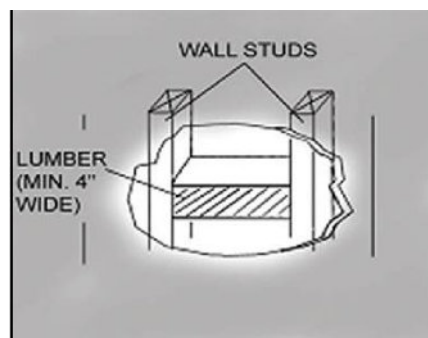

Figure 10
- Using references in Table 2 on page 4 and Measurements and Diagrams on pages 19-20, decide the level of the lumber. Refer to Figure 10.